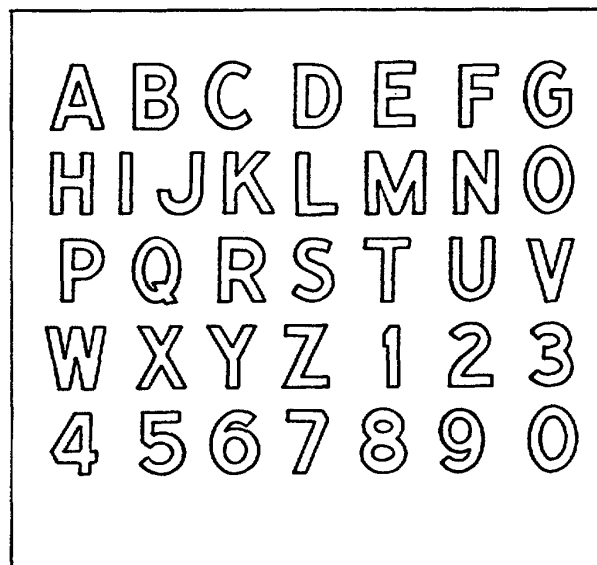

Figure 1. Gothic style alphabet and numerals.
a. All letters and numerals used in the marking of vehicles and equipment will be of the gothic style illustrated in Figure 1. Thickness of the characters (stroke width) will be between 1/6 and 1/7In of their height.
(1) Stencil and paint. Paper and metal stencils are available as individual letters, numerals, and legends of various sizes, and may be located by National Stock Number under FSC 7520, Federal Supply Catalog C7510/30-IL-A. Table 2-1 lists several different size metal stencil sets.